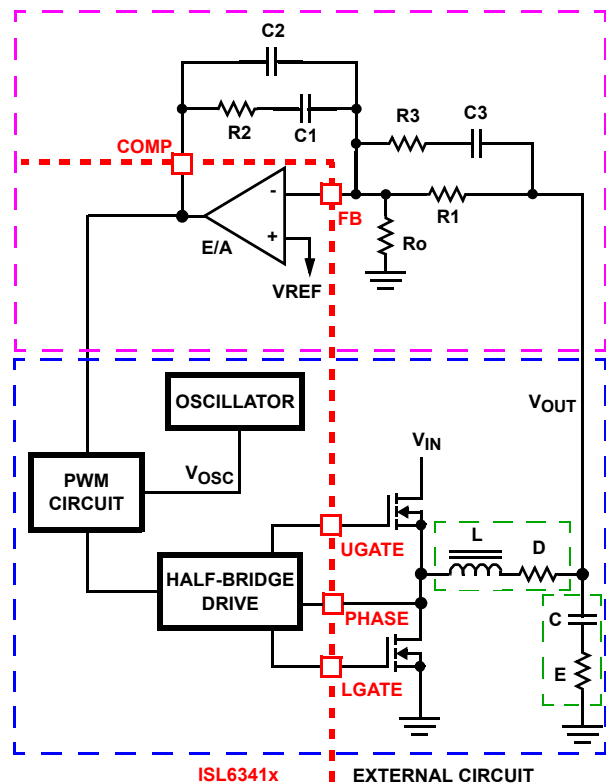

FIGURE 13. VOLTAGE-MODE BUCK CONVERTER COMPENSATION DESIGN
address a broad range of applications, a type-3 feedback network is recommended, as shown in the top part of Figure 13.
Figure 13 also highlights the voltage-mode control loop for a synchronous-rectified buck converter, applicable to the ISL6341x circuit. The output voltage (V_{OUT}) is regulated to the reference voltage, V_{REF} . The error amplifier output ($COMP$ pin voltage) is compared with the oscillator (OSC) modified sawtooth wave to provide a pulse-width modulated wave with an amplitude of V_{IN} at the $PHASE$ node. The PWM wave is smoothed by the output filter (L and C). The output filter capacitor bank's equivalent series resistance is represented by the series resistor E .
(F_0 ; typically 0.1 to 0.3 of f_{SW}) and adequate phase margin (better than 45°). Phase margin is the difference between the closed loop phase at F_{0dB} and 180° . The equations that follow relate the compensation network's poles, zeros and gain to the components (R_1, R_2, R_3, C_1, C_2 , and C_3) in Figure 13. Use the following guidelines for locating the poles and zeros of the compensation network:
4. Select a value for R_1 ($1k\Omega$ to $5k\Omega$, typically). Calculate the value for R_2 for desired converter bandwidth (F_0). If setting the output voltage via an offset resistor connected to the FB pin (R_0 in Figure 13), the design procedure can be followed as presented in Equation 4.